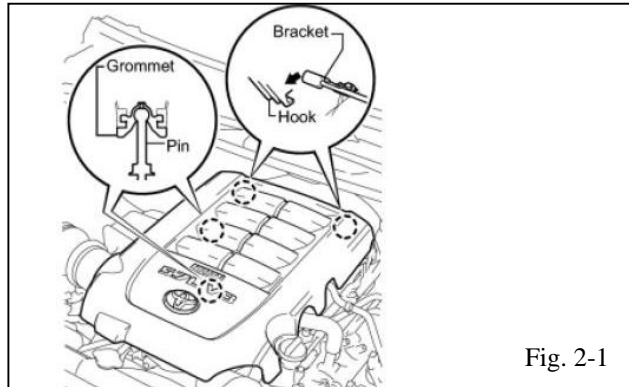

Fig. 2-1
- (a) To remove the engine V-bank cover, lift the front of the cover and pull it away from the firewall (Fig. 2-1). Discard these parts.